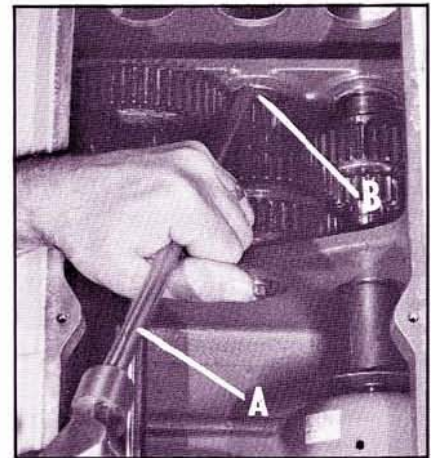

Fig. 13
13. Using a rod (A) Fig.13, tap upper bearing (B) up about 1/4" as shown.